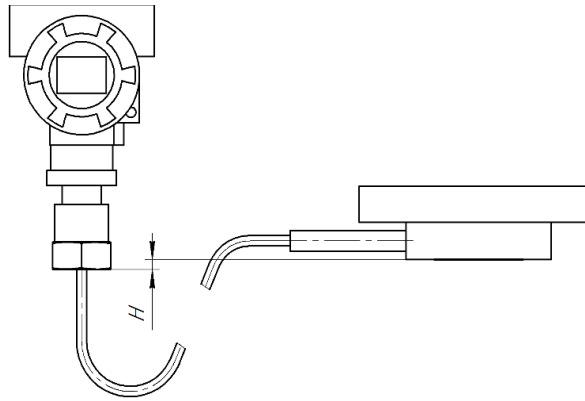

Figure 12 – Capillary tubes transmitter mounting
2.2.6 The pressure of the filling liquid in the capillary on the measuring diaphragm must be considered, when using pressure transmitter of a special flange or transmitters connected by capillary tubes with a diaphragm seal for measuring up to 1 MPa. Transmitter install recommendation: minimal distance between tap (diaphragm seal) and diaphragm of the pressure transmitter (Distance H, see figure 12).